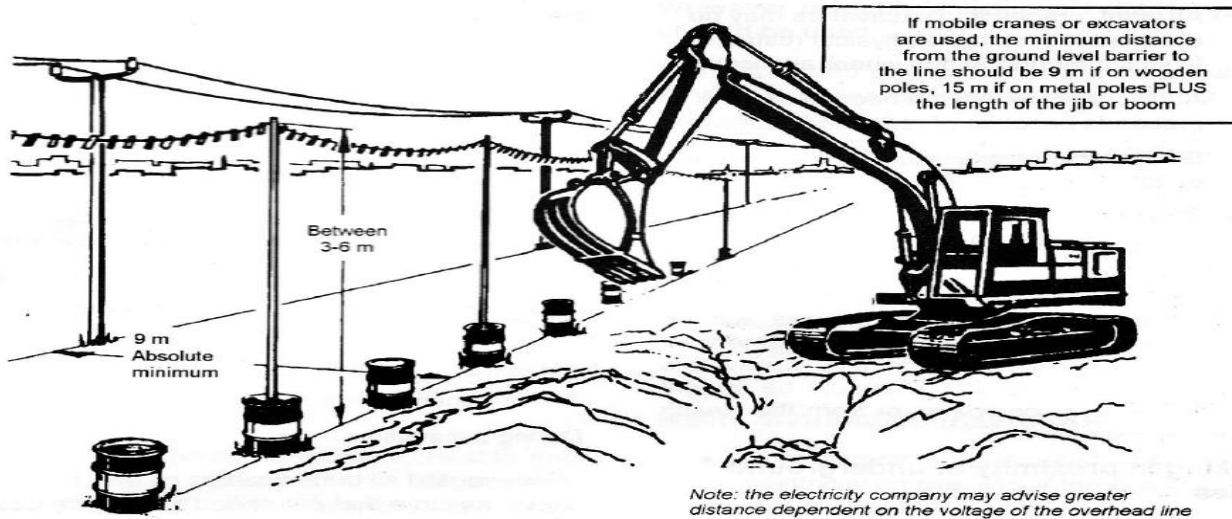

Figure 1 – “goalposts”
62. Risk assessments must be conducted by the Contractor to identify control measures to be used, such as goal posts (See Figure 1) or exclusion zones.